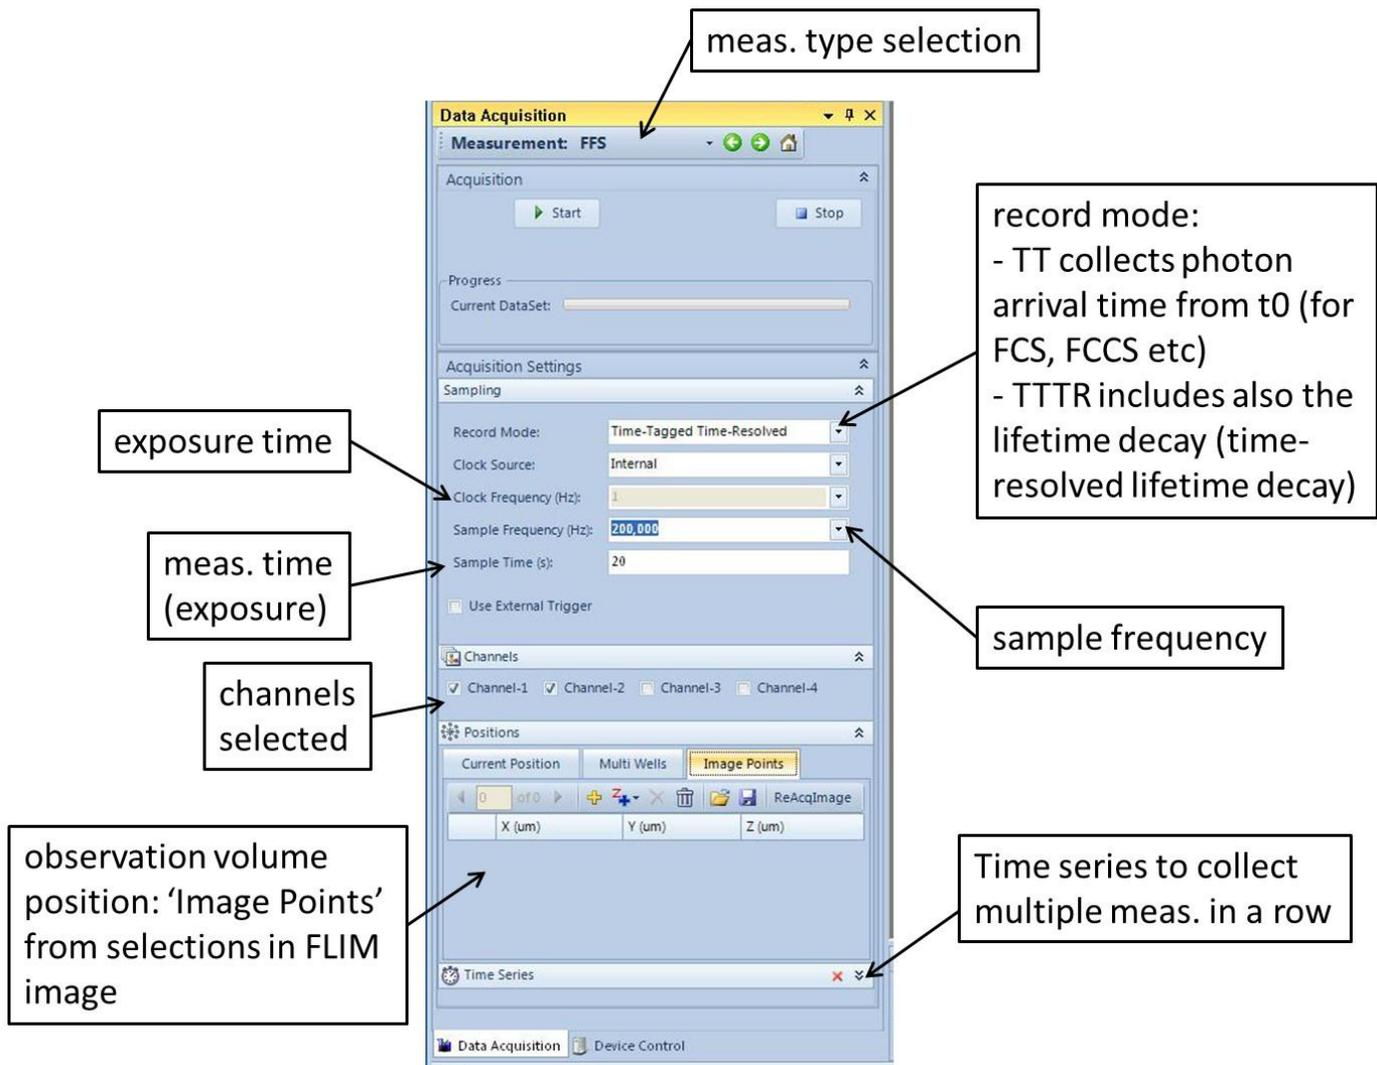

Fig. 6: FFS workspace
6. Detection mode: FFS workspace – fluorescence fluctuation spectroscopy (**Fig.6**):